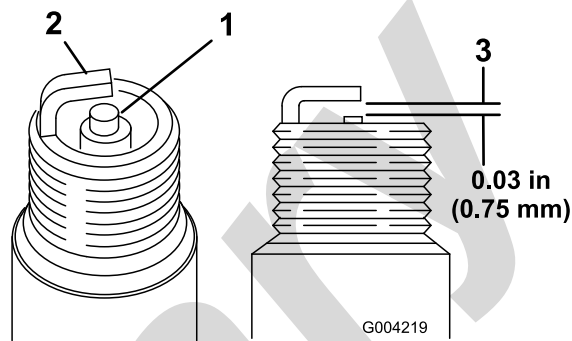

Figure 27
1. Look at the center of both spark plugs (Figure 27). If you see light brown or gray on the insulator, the engine is operating properly. A black coating on the insulator usually means the air cleaner is dirty.
2. Check the gap between the center and side electrodes (Figure 27).
3. Bend the side electrode (Figure 27) if the gap is not correct.